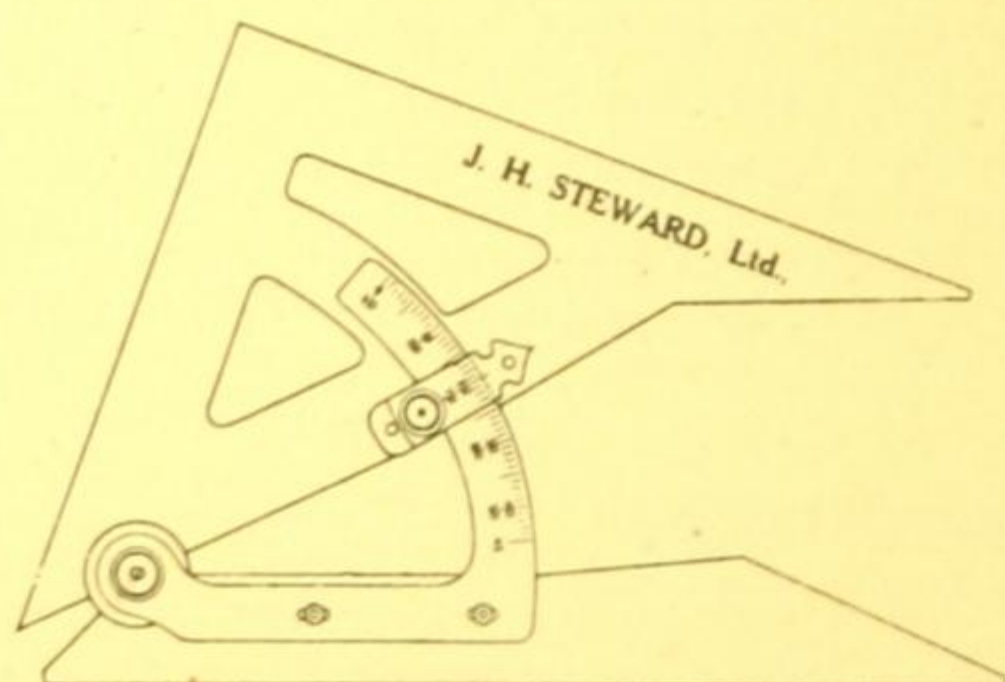

Fig. 210.
**Adjustable Set Square** made of transparent celluloid with an arc of 90°. At zero it is a set square of 45°, and can be fixed at any other angle up to 90°. It is made with a base of 7, 10 or 12-inches. Fig. 210.